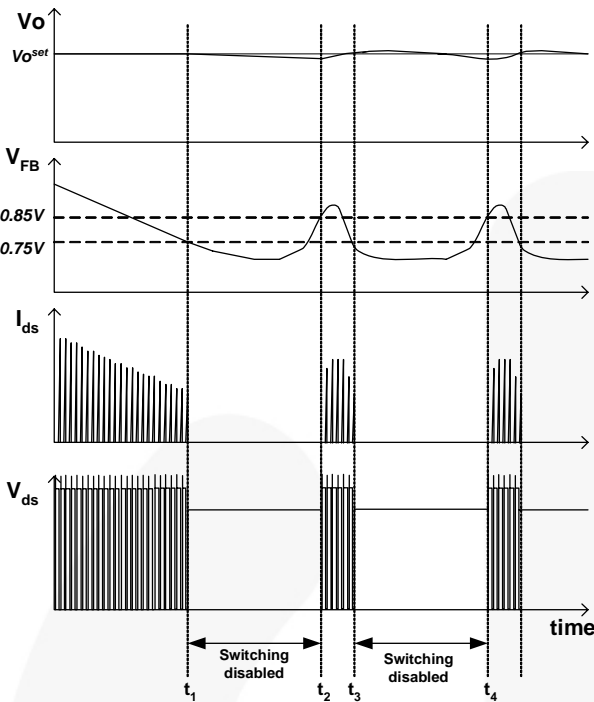

Figure 18. Burst-Mode Operation
6. Burst-Mode Operation: To minimize power dissipation in standby mode, the FPS enters burst-mode operation. As the load decreases, the feedback voltage decreases. As shown in Figure 18, the device automatically enters burst mode when the feedback voltage drops below V_{BURL} (750mV). At this point, switching stops and the output voltages start to drop at a rate dependent on standby current load. This causes the feedback voltage to rise. Once it passes V_{BURH} (850mV), switching resumes. The feedback voltage then falls and the process repeats. Burst mode alternately enables and disables switching of the SenseFET, reducing switching loss in standby mode.